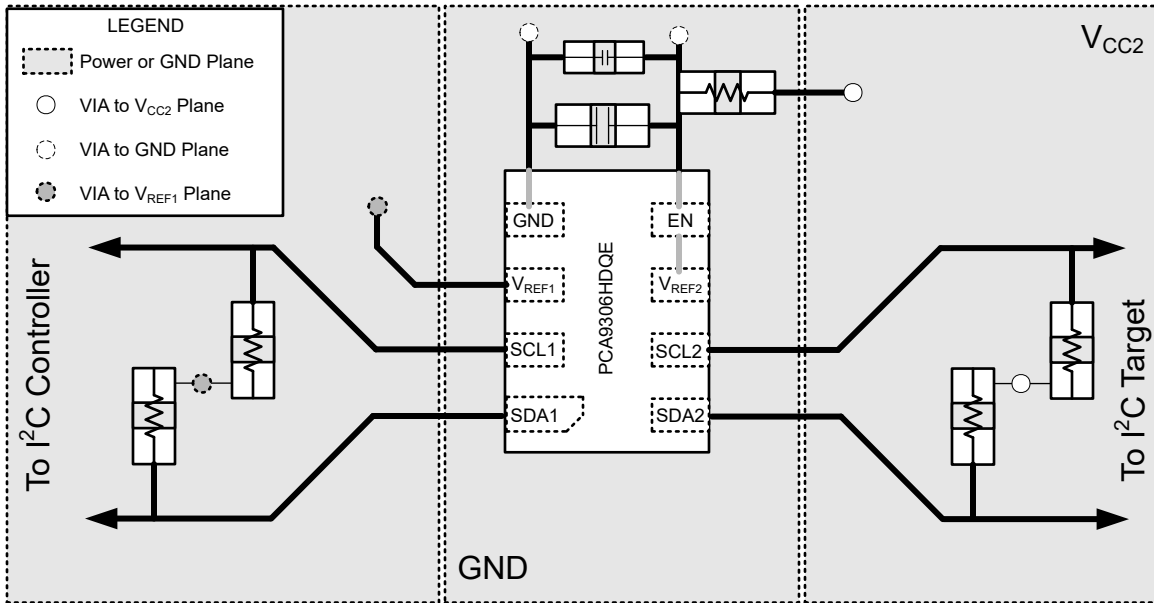

Figure 8-5. PCA9306H Layout Example
In all PCB layouts, it is a best practice to avoid right angles in signal traces, to fan out signal traces away from each other on leaving the vicinity of an integrated circuit (IC), and to use thicker trace widths to carry higher amounts of current that commonly pass through power and ground traces. The 100pF filter capacitor must be placed as close to V_{REF2} as possible. A larger decoupling capacitor can also be used, but a longer time constant of two capacitors and the 200kΩ resistor results in longer turnon and turnoff times for the PCA9306H device. These best practices are shown in Figure 8-5.
For the layout example provided in Figure 8-5, it would be possible to fabricate a PCB with only two layers by using the top layer for signal routing and the bottom layer as a split plane for power (V_{CC}) and ground (GND). However, a four-layer board is preferable for boards with higher-density signal routing. On a four-layer PCB, it is common to route signals on the top and bottom layer, dedicate one internal layer to a ground plane, and dedicate the other internal layer to a power plane. In a board layout using planes or split planes for power and ground, vias are placed directly next to the surface-mount component pad, which must attach to V_{CC} or GND, and the via is connected electrically to the internal layer or the other side of the board. Vias are also used when a signal trace must be routed to the opposite side of the board, but this technique is not demonstrated in Figure 8-5.